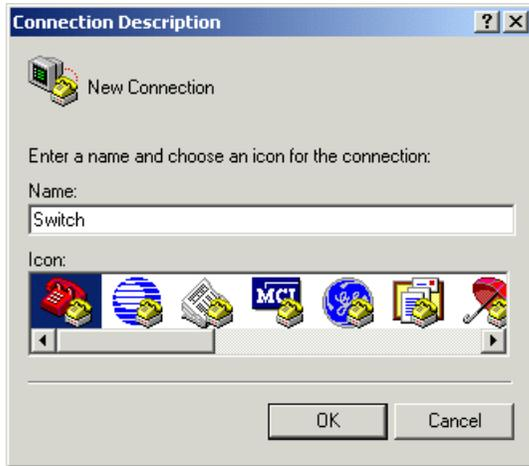

Figure 4-1 Connection Description window
3. The application will start and present you with the Connection Description window. This is where you define a connection name, which is for convenience only and can be anything meaningful to you. We used `Switch`, as shown in Figure 4-1: